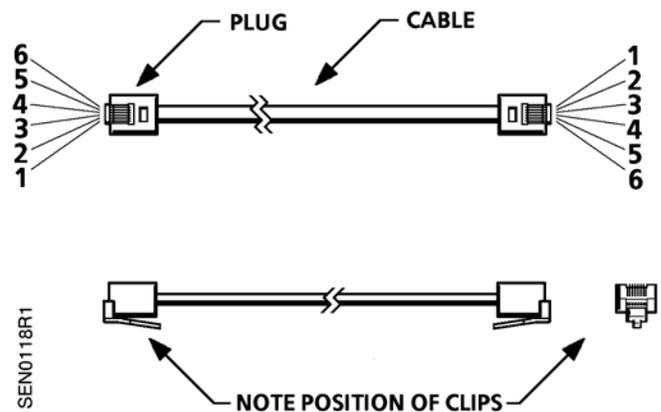

Figure 2. Terminating the Sensor Cable.
- Using the room sensor connector tool, attach an RJ-11 connector to both ends of the cable. Align the six wires in the same order on the connectors at both ends of the cable. See Figure 2.